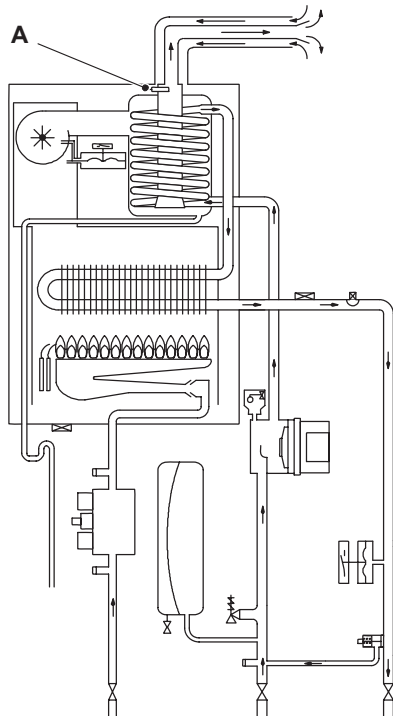
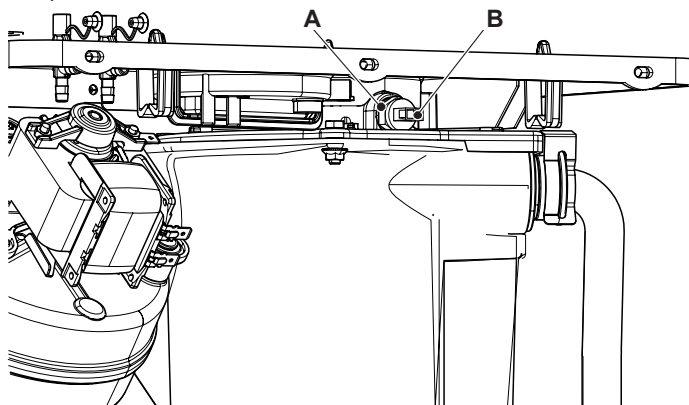

Figure 17.2
Figure 17.3
The Flue temperature probe NTC A in Figure 17.2 and Figure 17.3 senses the temperature of the combustion products that flow through the condensing heat exchanger.
- 2 Disconnect the wires B from the Flue temperature probe NTC (Figure 17.3).
- 3 Unscrew and remove the thermostat probe A (Figure 17.3) from the condensing heat exchanger.